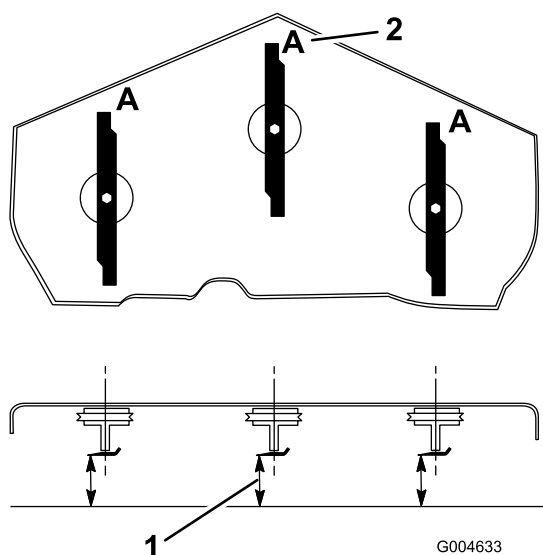

Figure 72
3. Rotate the blades until the ends face forward and backward (Figure 72). Measure from a level surface to the cutting edge, position **A**, of the blades (Figure 72). Note this dimension.